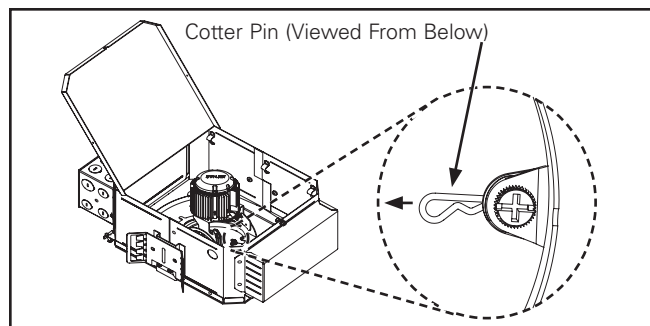

Figure 21.
3. Remove the cotter pin from the rotation lock down screw (Figure 21.). Use a small slot-head screwdriver or needle nose pliers. Retain the cotter pin for reinstallation.